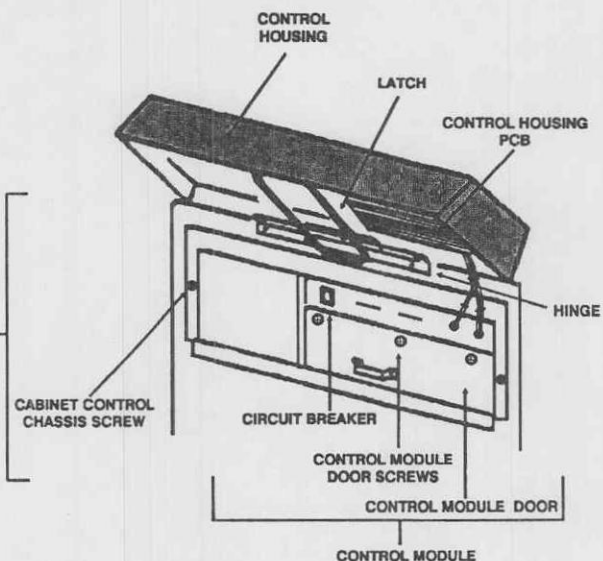
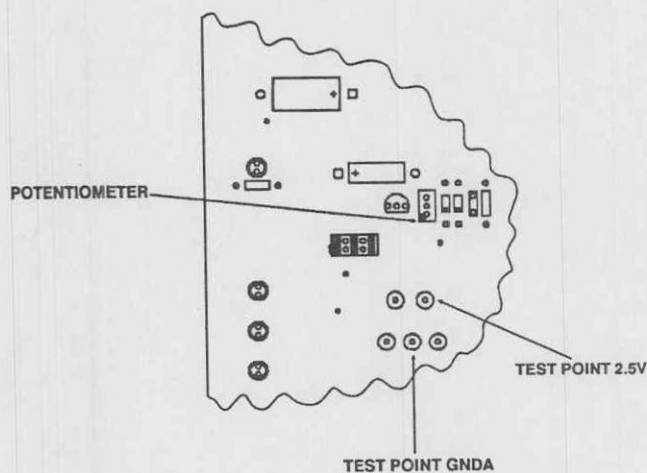

Figure 3-6. Cabinet control chassis (power supply).
Figure 3-9. Power supply (+2.5 VDC) adjustment.
3-15. Power supply voltage calibrations (fig 3-6 through fig 3-9).
f. Also on the PCB, adjust resistor "R17" ("2.5V ADJ") until the voltmeter indicates $2.500 \text{ VDC} \pm 0.005 \text{ VDC}$. (Refer to fig 3-9.)
(1) Close the control module door and replace the three screws.
(2) Lift the control housing slightly upward to release the latch and then lower it.
(3) Open the storage compartment door.
(4) Twist the screw located in the lower right corner to lock the control housing.
(5) Close the storage compartment door.